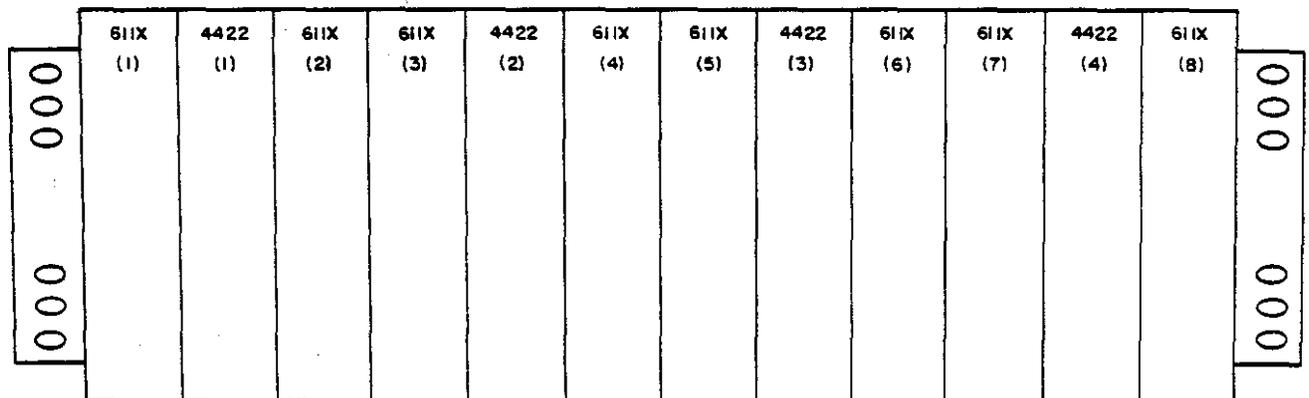

figure 5. 272R module positions
3.06 After the modules are properly ~~connected~~, install them in their proper positions in the 272R Assembly as shown in figure 5.